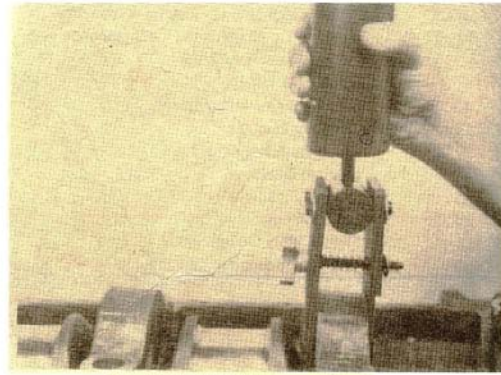

Fig. 14-3, Install the crankshaft
4. Use a hoist and lifting hooks protected with rubber hose or a lifting strap to lower the crankshaft carefully into position. Fig. 14-3.